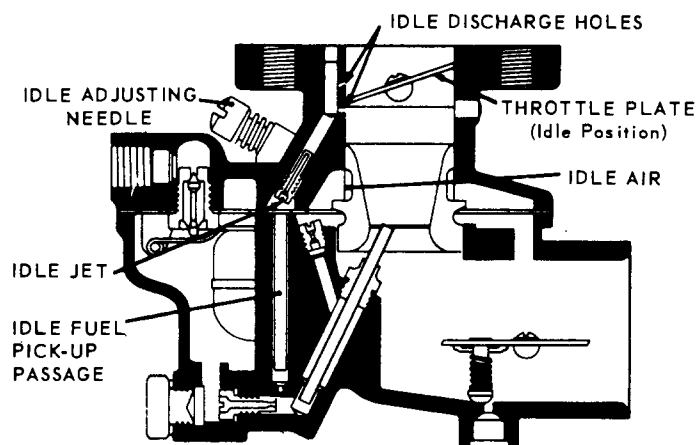

Fig. 2
**Idle system, Fig. 2,** consists of two idle discharge holes, idle air passage, idle adjusting needle, idle jet, and fuel pick-up passage. The fuel for idle is supplied through the main jet to a well directly below the main discharge jet. The pick-up passage is connected to this well by a restricted drilling at the bottom of this passage. The fuel travels through this channel to the idle jet calibration. The air for the idle mixture originates back of (or from behind) the main venturi. The position of the idle adjusting